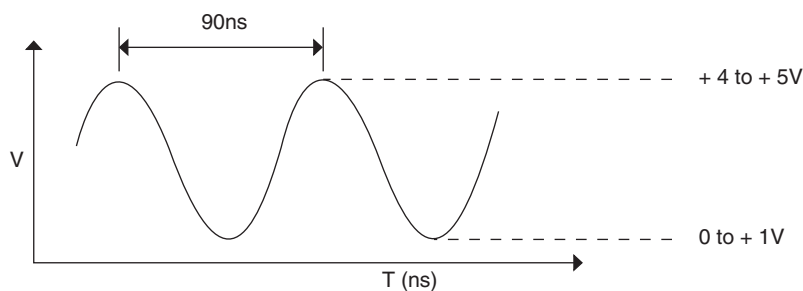

Figure B-3-1
- Is the OSC oscillation waveform as specified in Figure B-3-1?